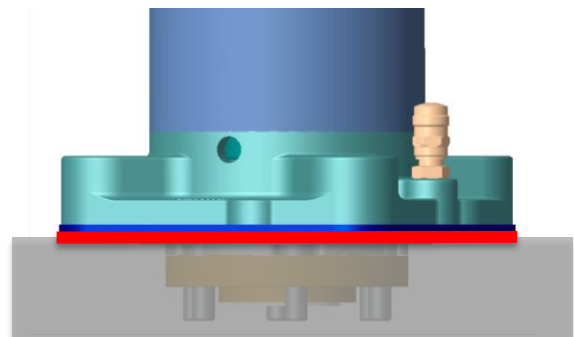

Figure 2 Bubble Leak Test at base of valve (red) to check primary PRV mounting gasket.
8. Check for leaks at base of valve (Figure 2, red). Note the weather seal does not retain pressure in excess of 5 psig.